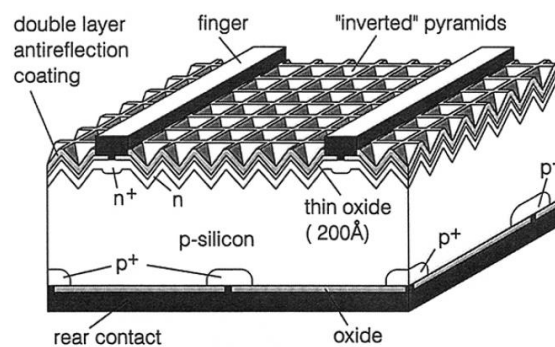

Figure B1.1: Schematic of a PERL cell (Zhao et. al., Solar Energy Materials and Solar Cells 41/42(1996) 87-89) (6)
b. Discuss how the doping concentration in each epilayer of a Si p-i-n diode solar cell affects the output power. (4)
c. The solar cell structure shown in **Figure B1.1** is known as Passivated Emitter & Rear Locally-diffused (PERL) cell. Describe the key features of the PERL cell that enables it to achieve high conversion efficiency.